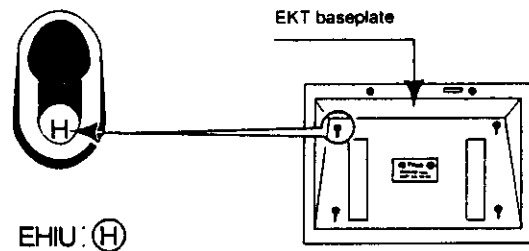

FIGURE 1 — INDICATION OF EHIU IN EKT
1.8 To determine if an EHIU has already been installed in an EKT, without opening the case, turn it face down and check the left upper "keyhole." If an EHIU has been installed an "H" will be visible in the keyhole. See Figure 1.